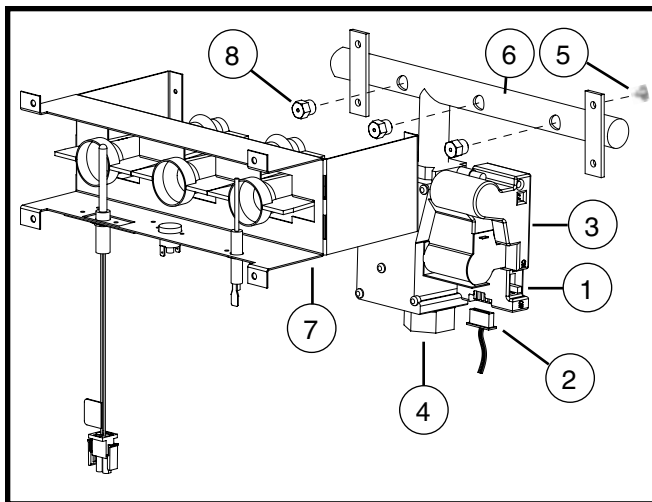

Figure 1. Burner and Manifold Assembly
- d. Move the gas valve ON/OFF switch (1) to the OFF position (Figure 1, page 3).
- e. Remove the wiring harness (2) from the modulating gas valve (3).
- f. Remove the supply gas piping from the gas valve inlet (4). (If connected)
- g. Remove four screws (5) securing the manifold assembly (6) to the burner assembly (7).
- h. Remove the manifold assembly (6) from the burner assembly (7).
- i. Remove the burner orifices (8) from the manifold assembly (6).